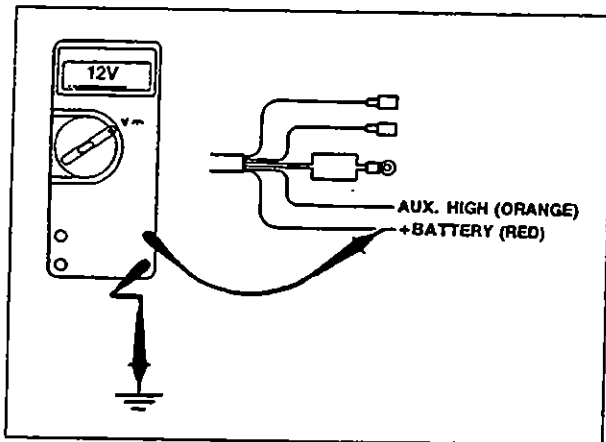

Fig. 1.1.32
**Correction:** Check that the connector between the vehicle power supply and the red line to the Jacobs control module is tight and free of any corrosion or oil. With the vehicle ignition turned on, +12 VDC must be measured at the red wire (Fig. 1.1.32). If not, continue with checks.